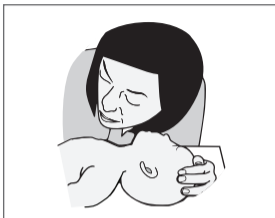

FIGURE 11: Check if infant is responsive or normal breathing
- Unresponsive when you talk to, touch, or tickle their feet/under their arms (**Figure 11, page 41**), and